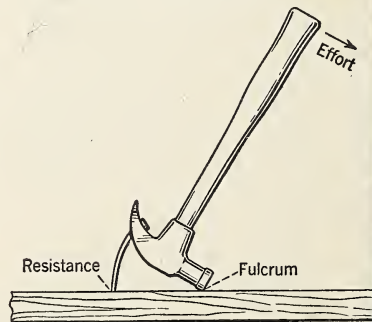

FIG. 248. The hammer in this figure is a lever of the first class.
1. Determine the position of the effort, fulcrum, and resistance in each of the following: a claw hammer used for pulling nails, Fig. 248; a pair of sugar tongs; a nutcracker; the oar of a rowboat; the lower jaw.